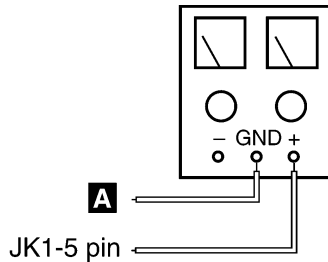

Fig.3.
2. Connect a DC power supply to **JK1-5 pin** and **A**. Then adjust the output to 10 V. Refer to Fig.3.